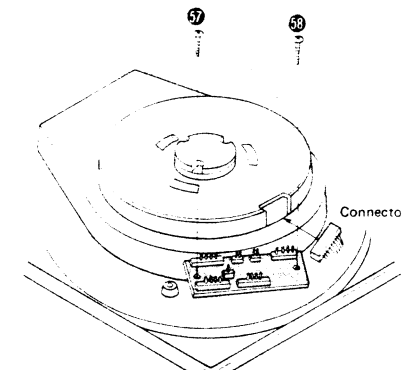

Fig. 14
Notes: 1. When inserting the connector, remove the bottom cover beforehand. (See Fig. 14)
2. Remove the 2 setscrews (Fig. 14 : 57, 58) of the printed board to remove the board.